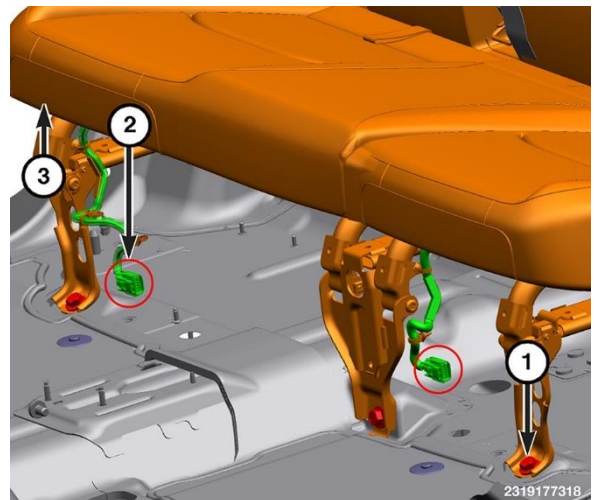

Figure 21 – Rear Seat Components
33. Disconnect the wire harness connectors (2), if equipped (Figure 21).
34. Remove the bolts (1) at the front of the rear seat (Figure 21).